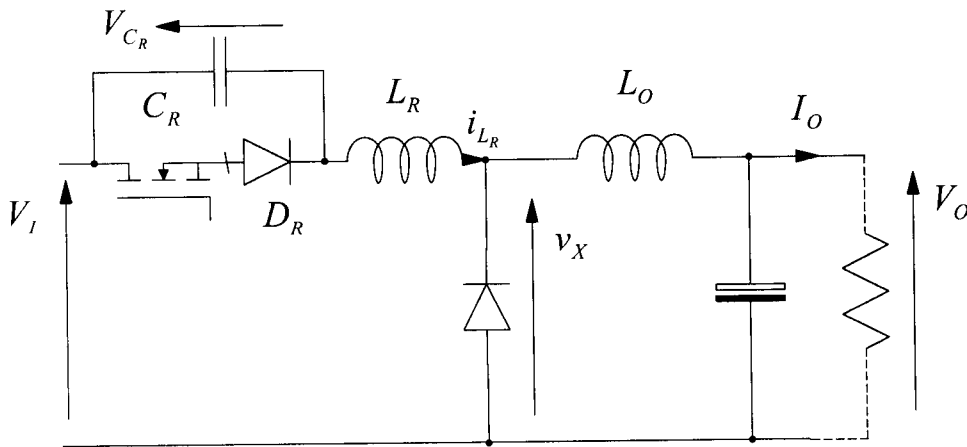

Figure Q5
5. Figure Q5 shows a Zero-voltage switched (ZVS) quasi resonant converter. The operation of the circuit occurs in four stages: